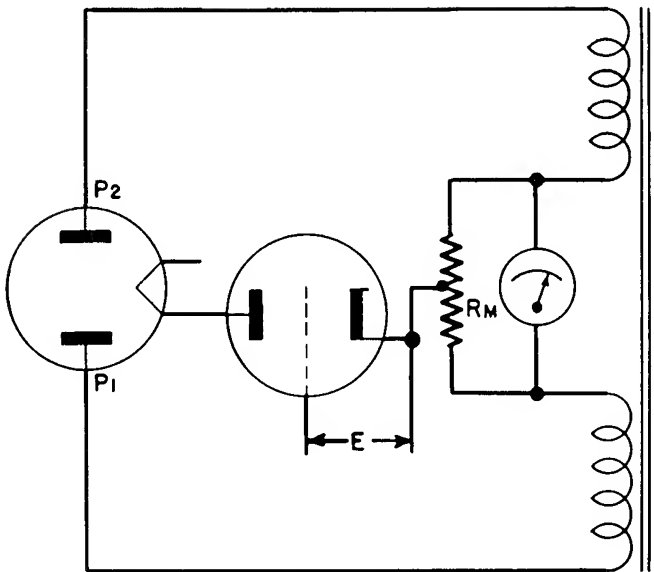

Figure 2-2. Basic Mutual Conductance Circuit Illustrating Theory
b. If the electron tube to be tested is substituted for the fixed load resistance, and a fixed bias  $E$  is applied to the tube as in Figure 2-2, the meter will still read zero because an electron tube under steady-state conditions acts like a fixed resistance.